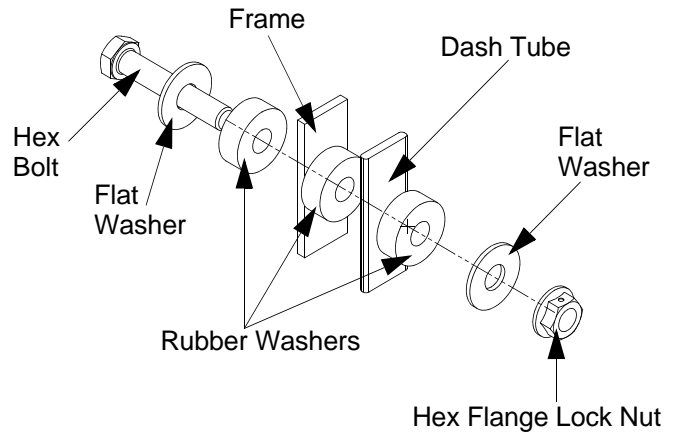

Figure 5
- Install the remaining hardware as shown in Figure 5 in place of the bolt and nut removed. Start the hex flange lock nut onto the bolt, but do not tighten it.
- Remove the other bolt and install the hardware as shown in Figure 5. Again, only start the nut.